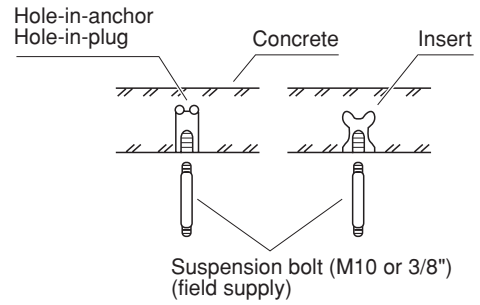

Fig. 3-84
- Insert suspension bolts as shown in Fig. 3-84
- (2) Screw in the suspension bolts allowing them to protrude from the ceiling as shown in Fig. 3-84. (Cut the ceiling material, if necessary.)